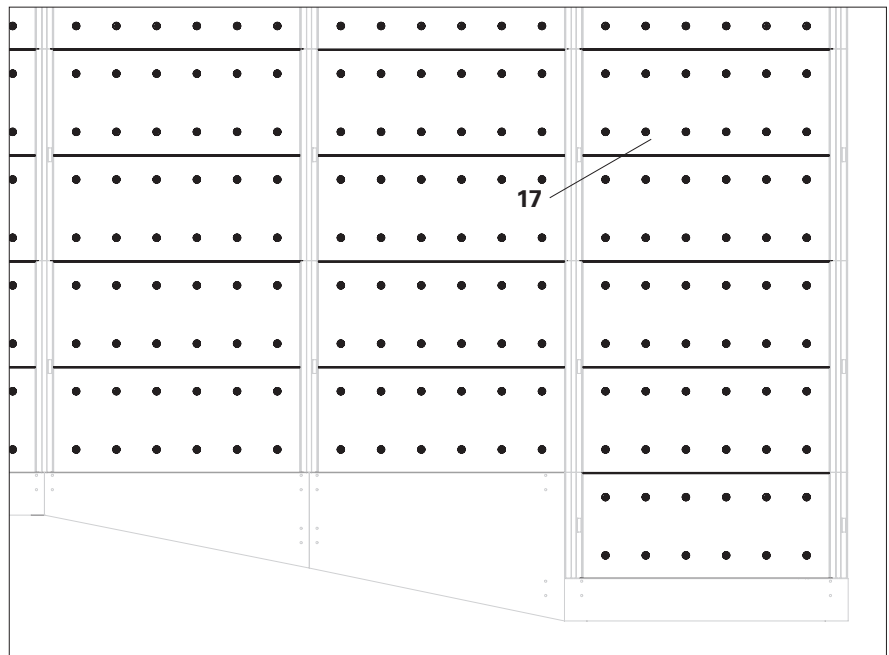

Fig. C4.09
1. Fit Panels CPP (17) from top to bottom. (Fig. C4.09)